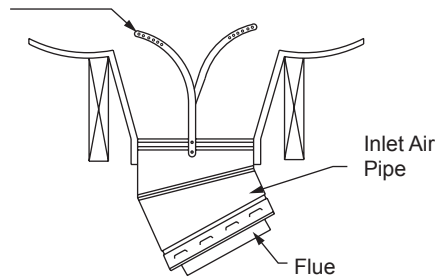

Figure 19
NOTE: If triple wall elbow is to be placed directly to the top of the fireplace, it will be necessary to bend a tab located on each of the four (4) inlet air collar brackets. Bend these tabs over only when using a triple wall elbow to start a chimney run. The tabs may be easily bent with your fingers or pliers. *Figure 19*